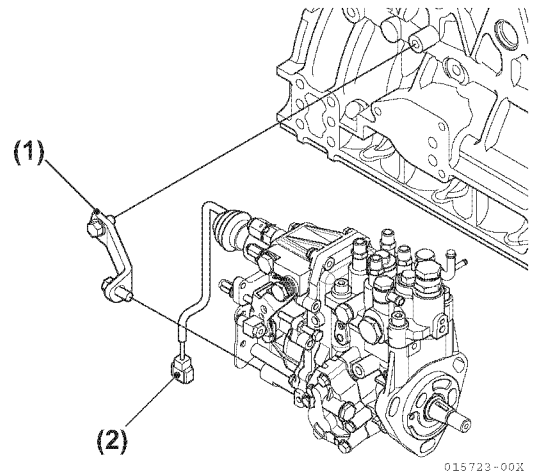

Figure 6-24
3. Disconnect electrical connector (Figure 6-24, (2)) from fuel measuring unit.
7. Remove bolts and support (Figure 6-24, (1)).